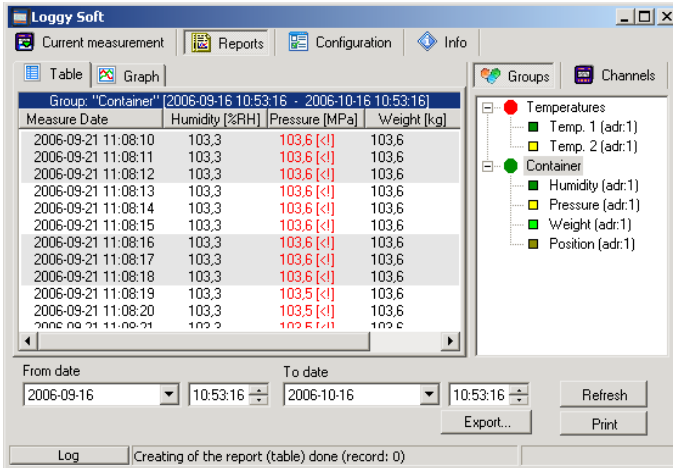

Fig. 3.3. Reports - menu
The **Table** tab (Fig. 3.3) is used for printing information concerning recorded measurements (e.g. temperature, humidity) in the form of a table for one of the groups or a particular measurement channel selected by the user (for more information on groups see 3.3.2 section, at page 101). This tab also enables the export of data to text format files. The exported file is formatted in a way allowing the transfer of data to a calculation sheet.
- click appropriate tab **Groups** or **Channels** (Fig. 3.3),